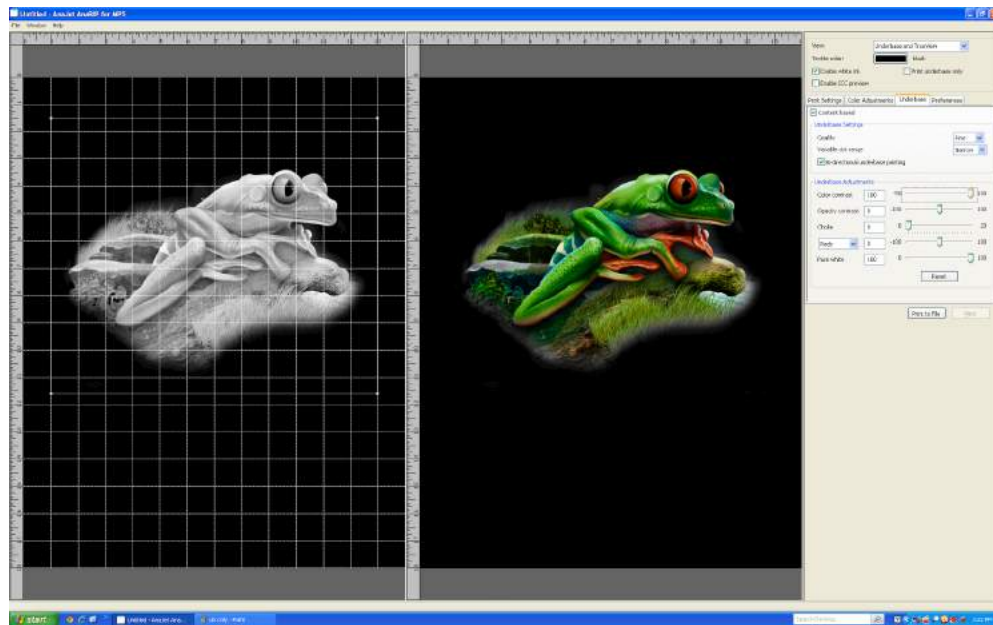
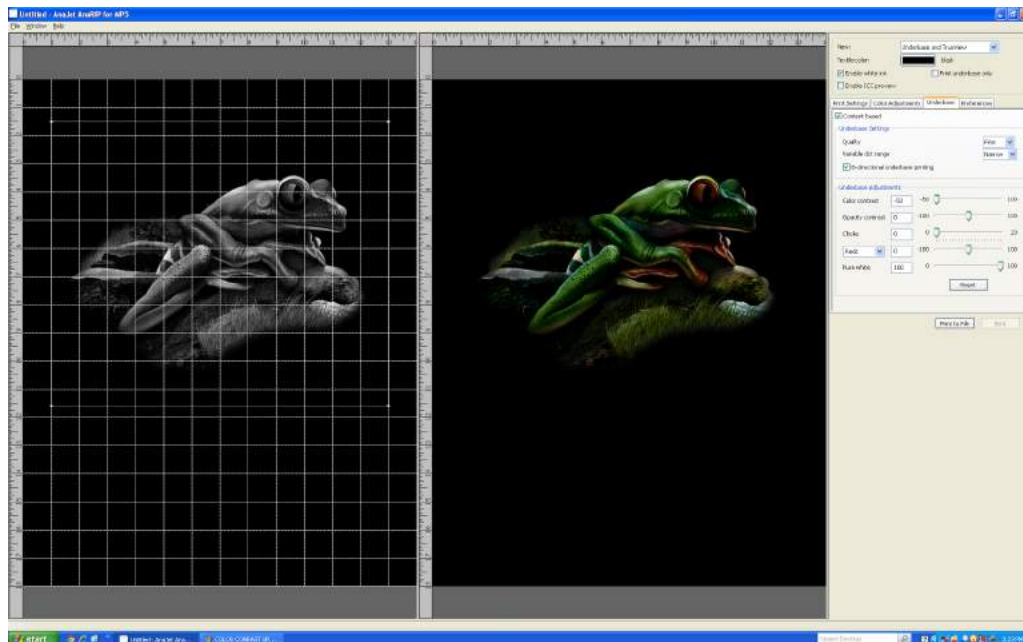

Figure 6.5f: Color Contrast Slider Up
Figure 6.5g: Color Contrast Slider Down
- Color Contrast** will affect the amount of white used in the image and can be adjusted with the Color Contrast slider bar. Moving the Brightness slider bar all the way to the right to 100 will give you a more solid white ink underbase and in turn brighter colors (Figure 6.5f). Moving the slider bar left towards -100 will create more of a grey scale white underbase and less vivid colors (Figure 6.5g).